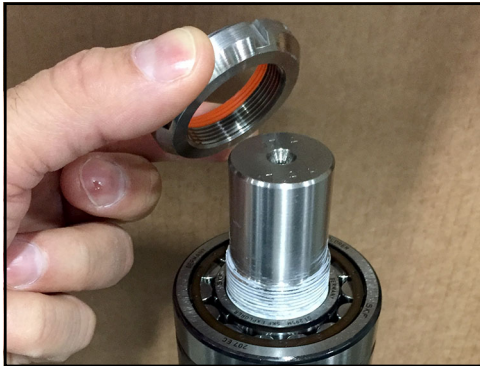

Figure 189 - Place locking nut onto shaft
30. Short shaft only: Apply anti-seize to the shaft. Place a new locking nut onto the shaft, and screw it on finger-tight as shown in Figure 189.